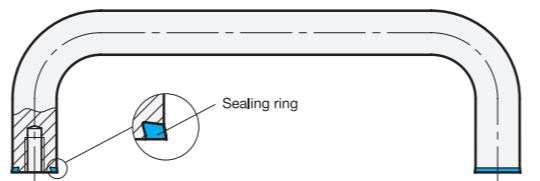

Fig. 1
- It must be noted that the U-handle may be used only in combination with the supplied sealing ring. The seal has a conical shape. The correct installation position must therefore be observed (Fig. 1).